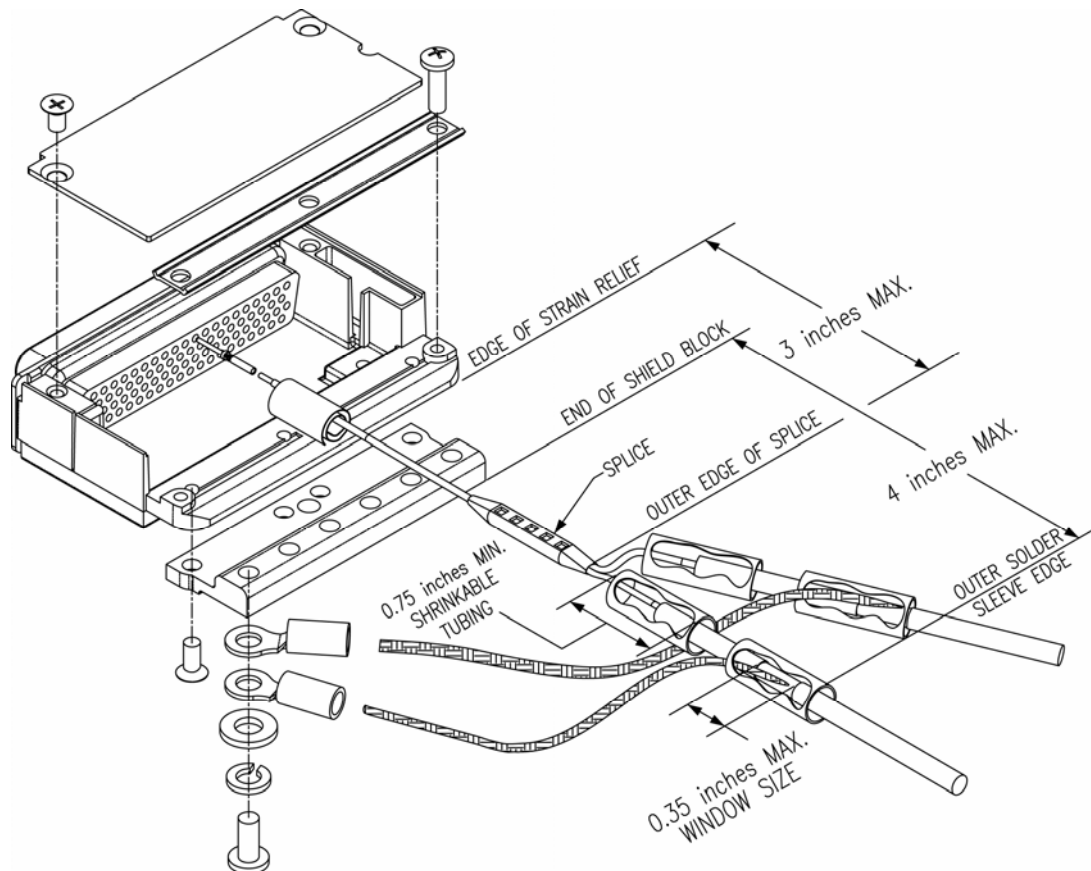

Figure 12-9. D-Sub Spliced Signal Wire Illustration
- C1. Figure 12-9 illustrates that a splice must be made within a 3 inch window from outside the edge of strain relief to the end of the 3 inch max mark.
- C2. Figure 12-9 shows a two wire splice, but a maximum of three wires can be spliced. If a third wire is spliced, it is located out front of splice along with signal wire going to pin.